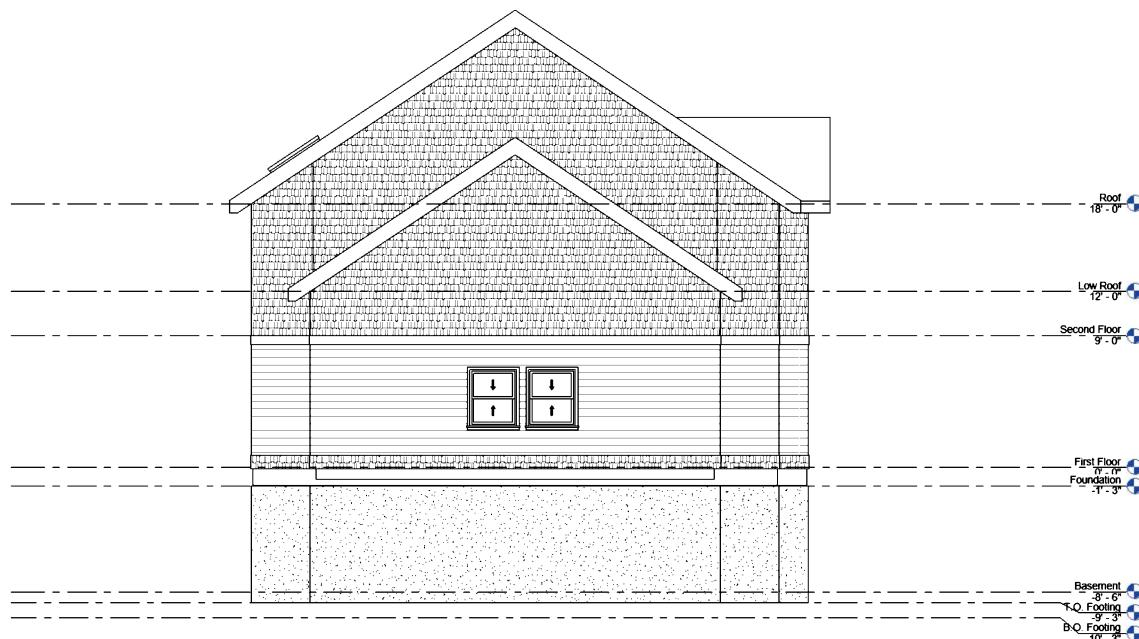

FIGURE 10-2.1 Modifying windows on the West elevation
2. Open the **West** exterior elevation view. Adjust the start and end locations of the **Level Datum** lines to be closer to the edge of the building (Figure 10-2.1).
5. Select the remaining two windows and use the **Move** tool to approximately center them on the wall/roof ridge, keeping the vertical alignment unchanged (Figure 10-2.1). The next page will discuss how to center them more precisely.